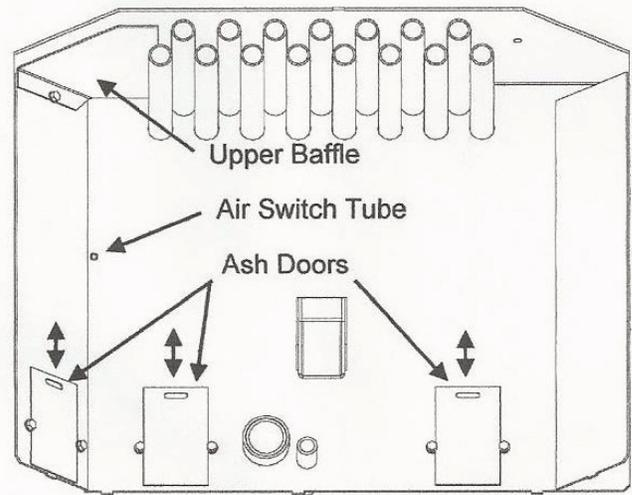

FIGURE 25
- b. Interior Chambers – Three ash doors and an upper baffle in the firebox in the SP2000 can be removed for periodic cleaning (Figure 25). These doors allow access to the chamber surrounding the firebox.